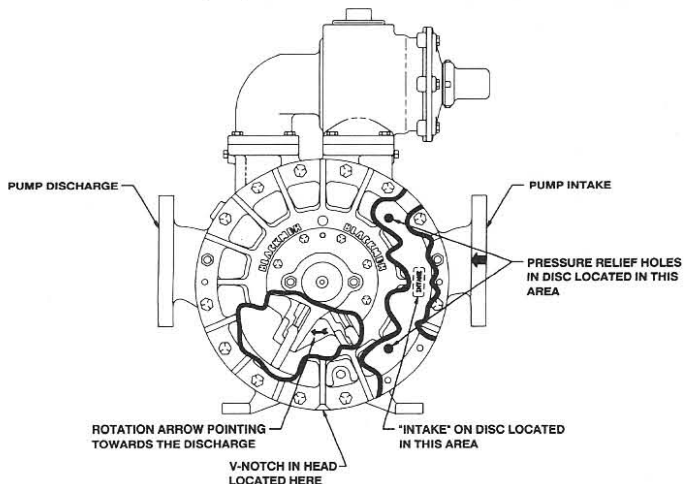

Figure 6
- a. Place a disc (71) on the head (20 or 20A) with the counterbored screw holes facing up.
- b. Position the disc so that when the head is mounted with the drain hole and V-notch down, the word "INTAKE" on the disc will be towards the intake side of the pump. The two disc holes should be in the 2 and 4 o'clock positions if the inlet is on the right (see Figure 6).
- c. Install the four (4) lockwashers (71B), tangs outward, and machine screws (71A) to attach the disc to the head.
- a. Partially install the rotor and shaft into the open side of the pump and through the bore of the installed head. Be careful not to damage the disc face with the shaft end. **NOTE: When installing the rotor and shaft, the rotation arrow on the rotor must point in the direction of pump rotation—towards the discharge side of the pump when the arrow is positioned directly below the shaft.** (Refer back to Figure 6.)